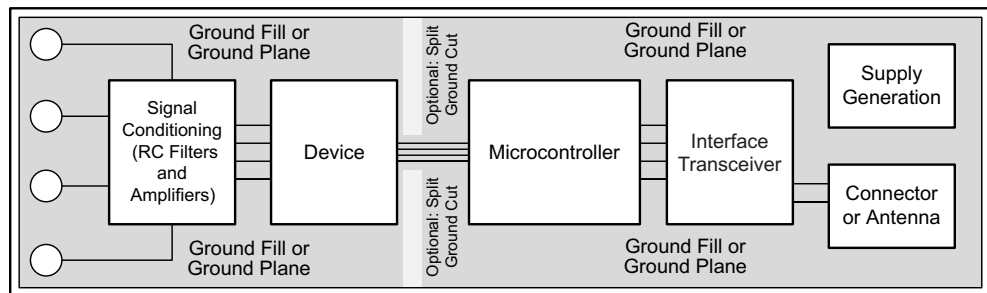

**Figure 68. System Component Placement**
TI recommends employing best design practices when laying out a printed-circuit board (PCB) for both analog and digital components. This recommendation generally means that the layout separates analog components (such as ADCs, amplifiers, references, digital-to-analog converters (DACs), and analog MUXs) from digital components (such as microcontrollers, complex programmable logic devices (CPLDs), field-programmable gate arrays (FPGAs), radio frequency (RF) transceivers, universal serial bus (USB) transceivers, and switching regulators). An example of good component placement is shown in Figure 68. Although Figure 68 provides a good example of component placement, the best placement for each application is unique to the geometries, components, and PCB fabrication capabilities employed. That is, there is no single layout that is perfect for every design and careful consideration must always be used when designing with any analog component.